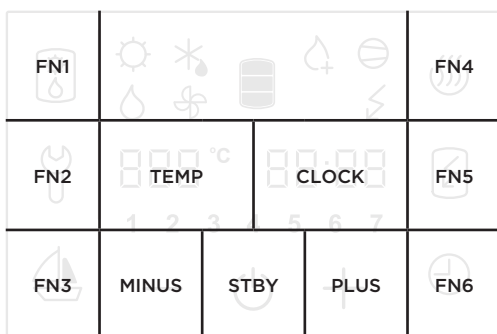

Figure 14: Fields display
- By pressing the right number (Field **CLOCK** in **Figure 14**) you proceed to the next parameter.